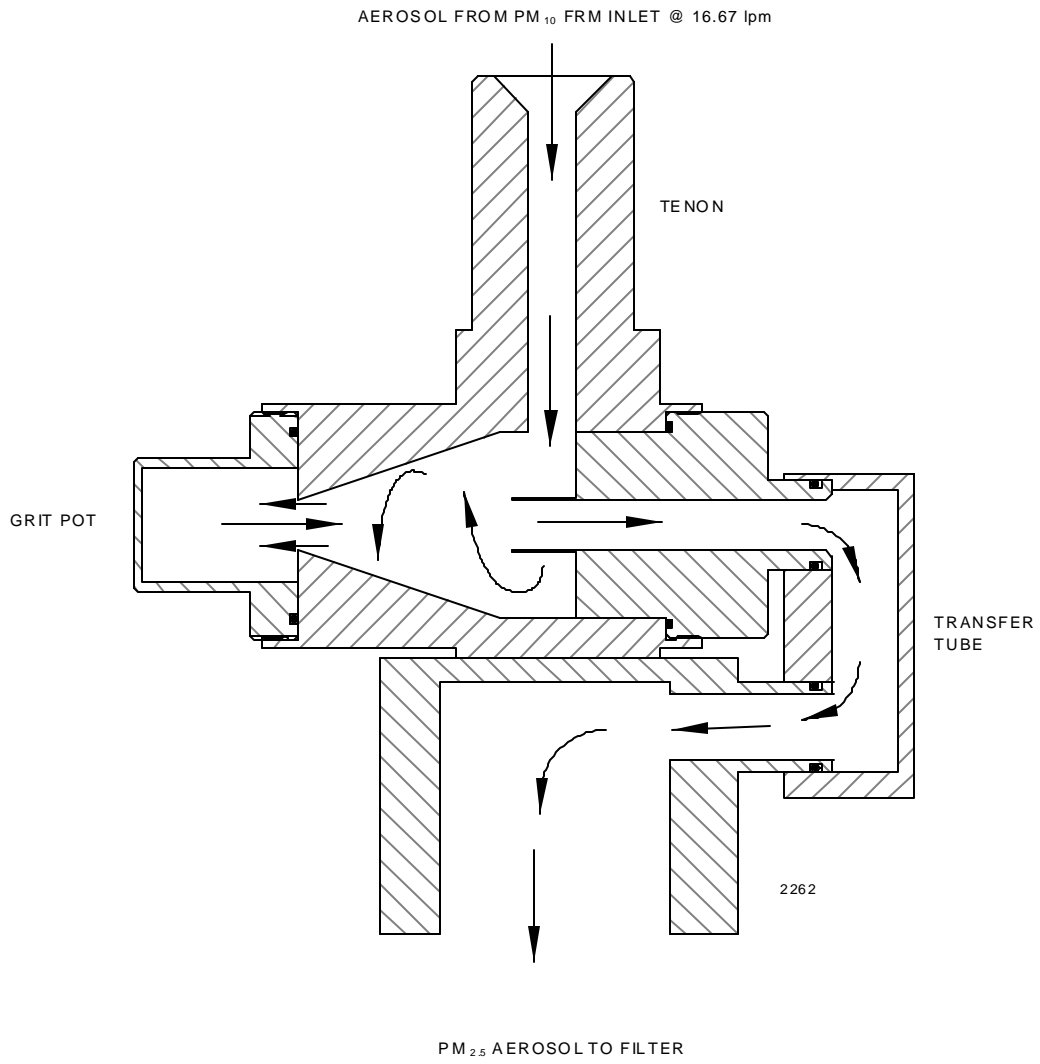

Figure 1: BGI Very Sharp Cut Cyclone (VSCC™) Flow Path
BGI manufactures two versions of the VSCC. They are the VSCC-A, which is a direct replacement for any commercial FRM system utilizing the standard WINS impactor, such as the Rupprecht & Patashnick (Partisol™), Graseby/Anderson (RAAS™ with use of exit adapter 2302). The VSCC-B is intended for installation only in the BGI PQ200 and PQ200A FRM samplers. See Figures 1 through 4.
The flow path through a VSCC is shown, in a cut-away view in Figure 1. PM₁₀ "Coarse" aerosol enters tangentially after being pre-separated by the PM₁₀ FRM inlet. Particles greater than PM_{2.5} (MMD-AED) are removed to the grit pot on the side of the VSCC and the PM_{2.5} sample is ducted through the cyclone separator to the filter holder. Field and laboratory tests indicate the VSCC can operate up to a period of 90 days between cleaning frequencies, even in high urban loading sites.
- Step 5. Replace the upper WINS housing with the VSCC upper adapter. (See Figure 1 and 4b). The male tenon of the VSCC should pass through the top of the sampler weather seal.